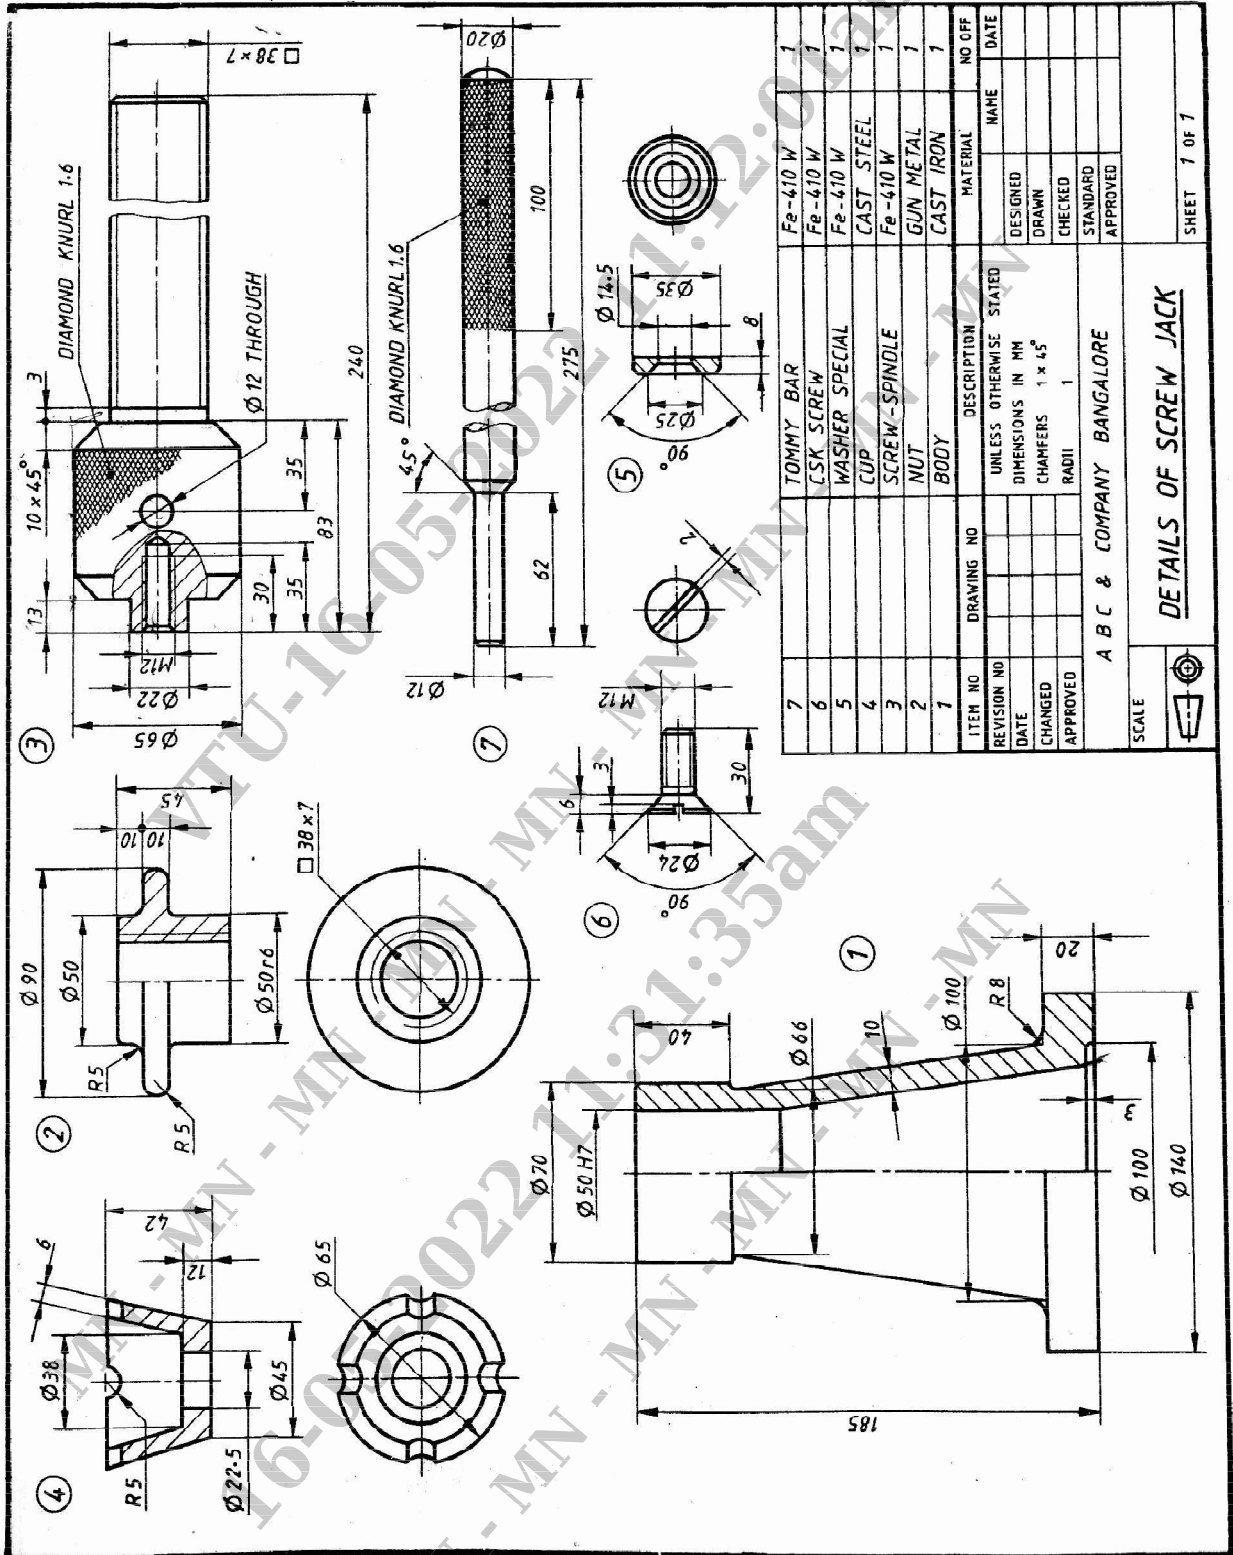

Figure 1: Details of Screw jack
5. Figure 1 shows the details of a “SCREW JACK”. Assemble the parts and show the following views.